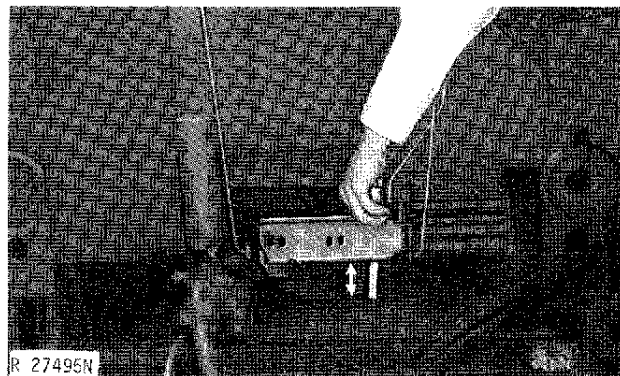

Fig. 21-Measuring Placement of Hydraulic Control Inner Support
- 40. Measure distance between hydraulic control inner support and SOUND-GARD Body to insure that support is reinstalled in its original position (Fig. 21).